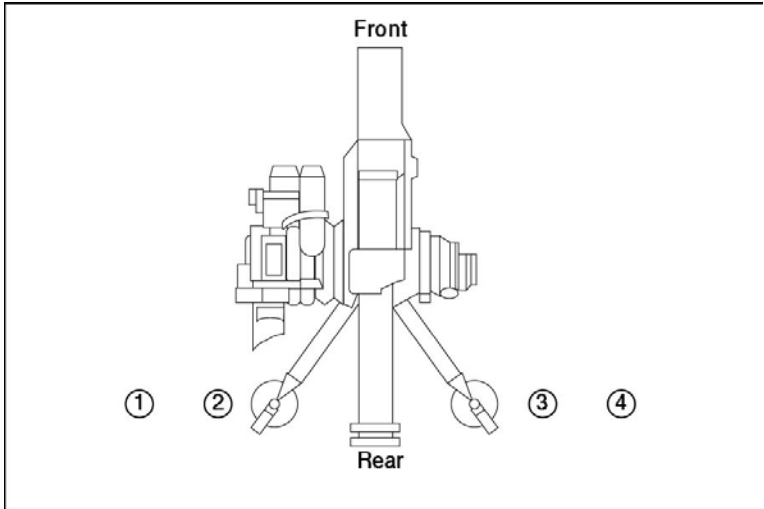

Figure 2-7-3: Detachment Positions for TOW 2 Ground Mounted Operations
23. **Prepare for Action.** The command PREPARE FOR ACTION is normally given from the detachment front or detachment rear position. Upon hearing the command PREPARE FOR ACTION, the detachment comes to attention, doubles to their positions at the weapon and checks it to ensure it is serviceable as follows (see Figure 2-7-3):